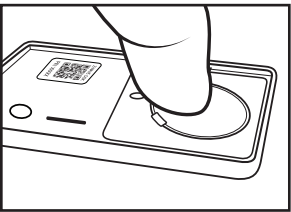

FIGURE 5
4. When installing a new battery, ensure proper polarity — plus side up. Insert the lower end first so the battery is under the side ribs (see Figure 5). Press down on the upper end to secure the battery in place.